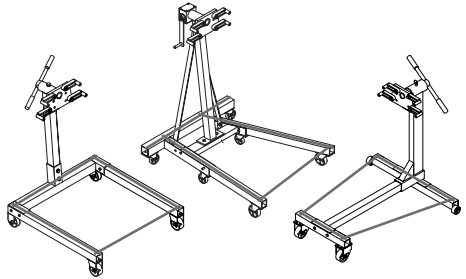

Figure 9 - Peripheral Loading Limit of Engine Stand
- ⚠WARNING: ALWAYS** verify that the product and the application are compatible. **NEVER** load the engine stand with an engine that extends beyond an imaginary line drawn connecting the centerlines of the front and rear wheel/ caster axles as show in Fig 9.